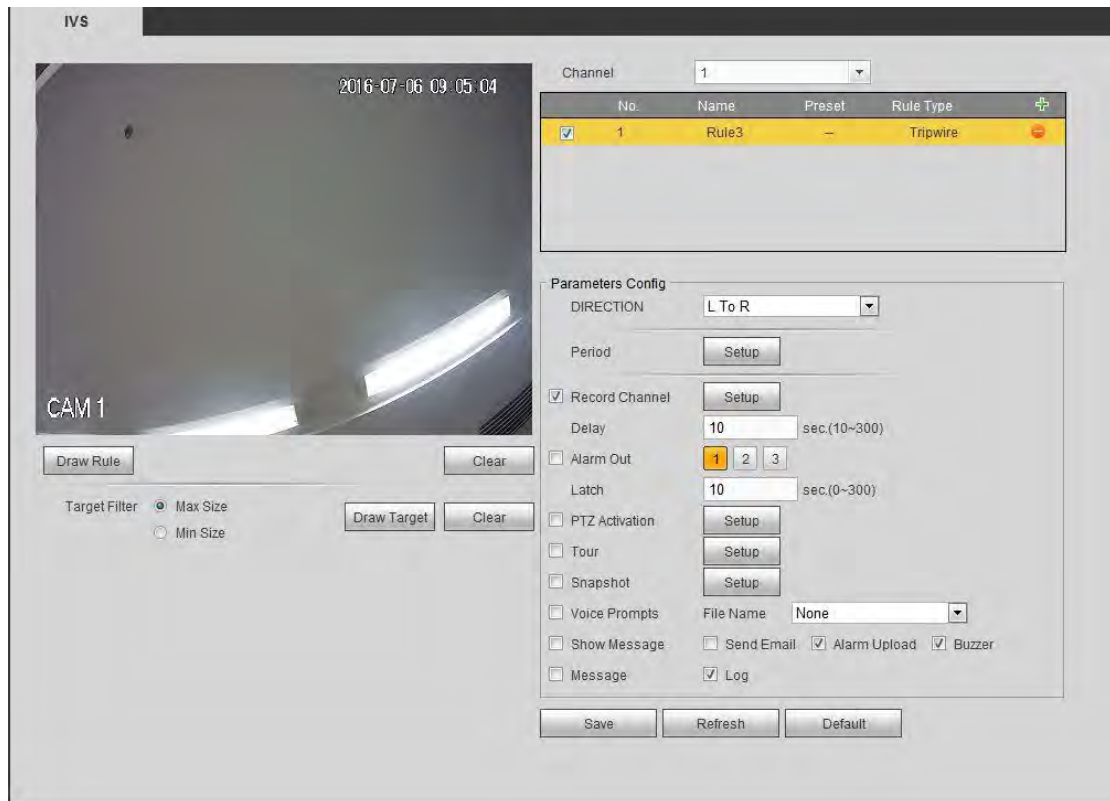

Figure 5-78
Step 2 Check the Tripwire box to enable tripwire function. See Figure 5-78.